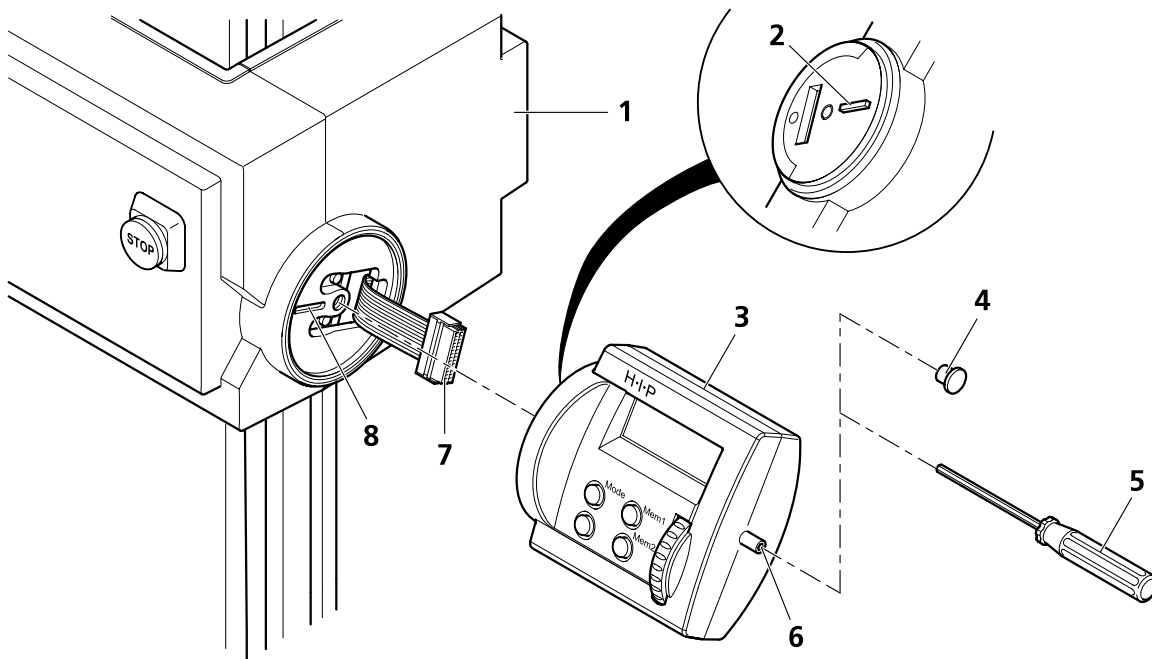

Fig. 27 Installing the HIP control unit
Install the HIP (Fig. 27/3) to the microscope body (zoom function) or to the motorized focusing drive (focus function) by following this procedure:
- Remove the cover (right) from the microscope body (only on SteREO Discovery.V12/V20) or the focusing drive (Fig. 27/1) and the cover cap from the HIP (Fig. 27/4).
- Slightly pull out the connecting cable (Fig. 27/7) without applying force and connect it to the corresponding connector on the HIP.
- Push the cable fully back into the casing without folding it; carefully attach the HIP so that the nose (Fig. 27/2) on the HIP engages with the provided groove (Fig. 27/8).
- Screw in the Allen screw (SW 3) (Fig. 27/6) with the ball-headed screwdriver (Fig. 27/5) as far as it will go.
- Re-attach the cover cap (Fig. 27/4) to the HIP.